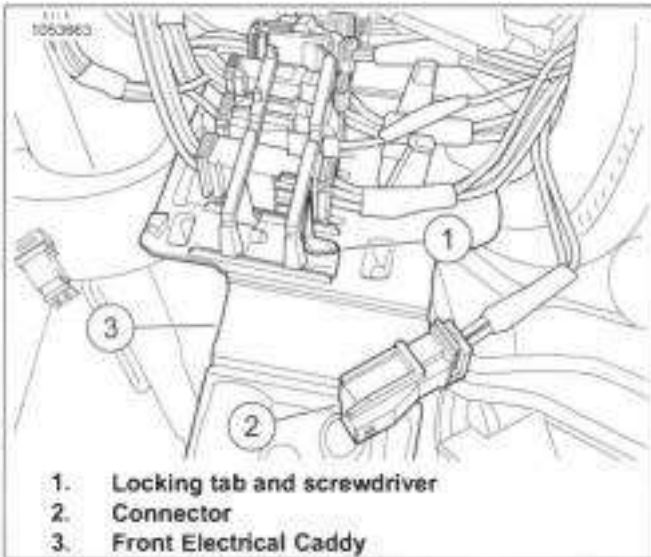

Figure 7-152. Center Fold Unlocked Connector
- c. See Figure 7-152. Remove connector (2).